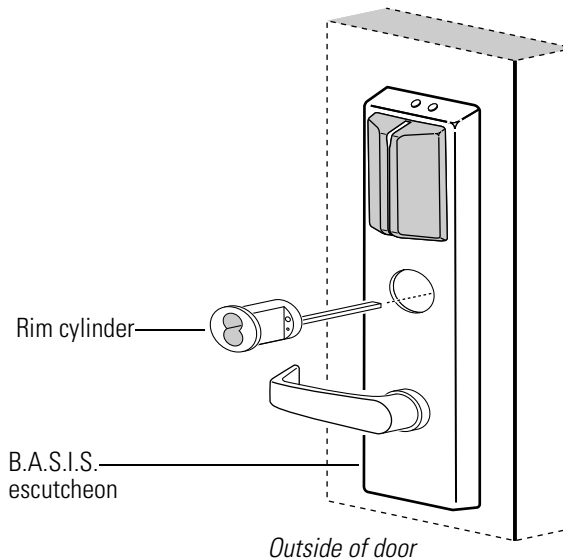

Figure 8.8 Removing and reinstalling the rim cylinder for Precision Hardware installations
2. Insert the cylinder through the cylinder opening in the B.A.S.I.S. escutcheon and into the door as shown in Figure 8.8.
3. Orient the cylinder and clamp plate as shown in Figure 8.8. From the inside of the door, secure the cylinder using the clamp plate and mounting screws.